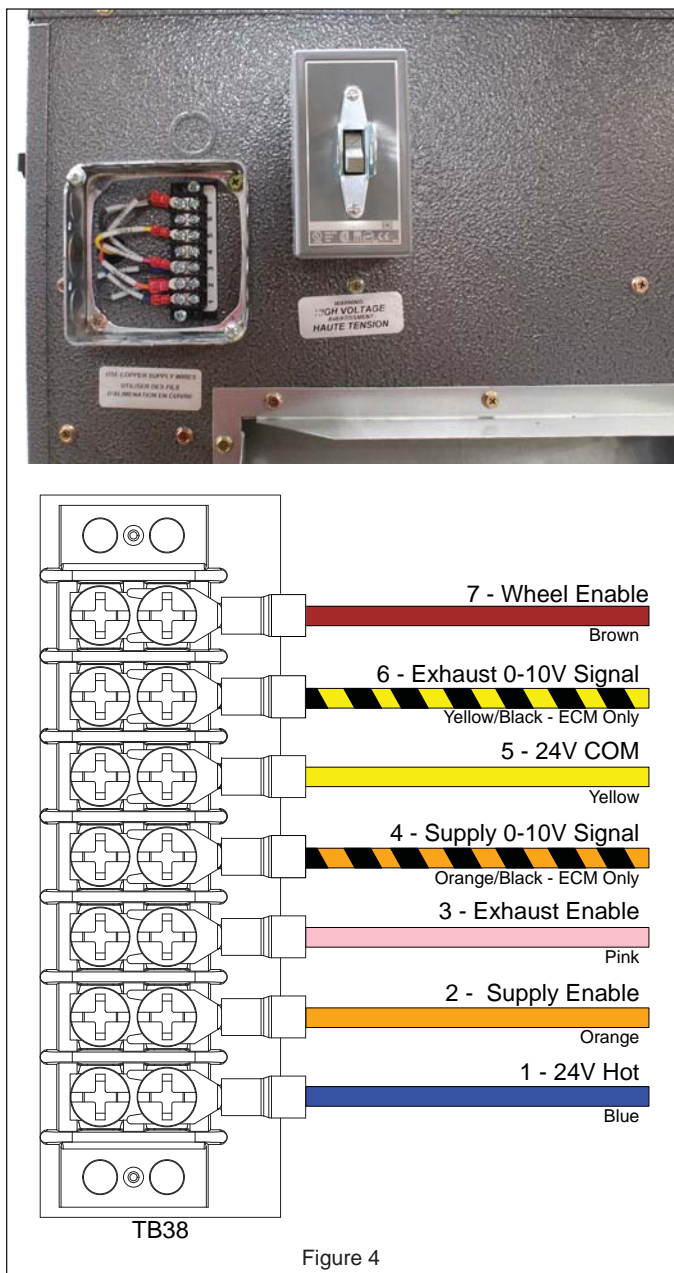

Figure 4
Standard Units: Pass low voltage wire through a knockout and connect R to terminal #1 of TB-38 terminal block and G to terminal #3. Factory installed jumpers between terminals 2, 3 and 7 will engage all motors at once. **See Wiring Diagrams on Page 10 and Figure 4.**
ECM Units: Pass low voltage wiring through a knockout and connect R to terminal T#1 on TB-38 terminal block, connect G to terminal T#3. The default wiring for ECM units is 2 speed operation with the unit factory wired for low speed. To change to high speed move the blue wires (BL-25 & BL-30) from terminal 1 to terminal 2 on the speed selection terminals in the blower compartment (TB39 & TB40). See Wiring Diagram on Page 10. To use the ECMs to modulate speed the 24v speed selection wires BL-25 & BL-30) first need to be removed either at TB39 & TB40 in the blower section or relays K163 & K164 pin #4 in the controls section. Terminals 4-6 on TB38 are for speed selection. To control both blowers in unison wire the 0-10vdc control signal to terminals 4 (10vdc+) and 5 (10vdc com) and add a jumper between terminals 4 & 6. If the blowers are controlled independently then wire the exhaust blower signal to terminals 5 & 6 and the supply signal to terminals 4 & 5, **See Wiring Diagram on Page 10 and Figure 4. See Adjusting Blower Speed in Section IX - System Check** for further balancing information.
- If supply blower or wheel does not start running check for factory installed jumpers and refer to **Figure 4 on Page 4**.